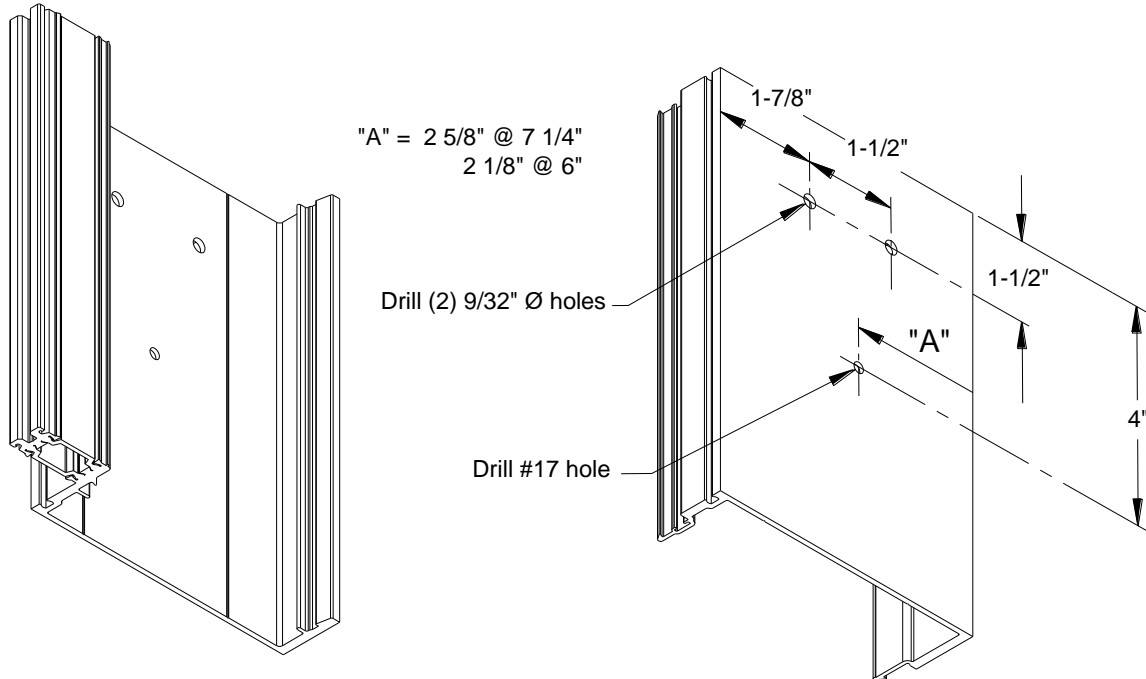

Figure 31: Vertical Mullion Fabrication
- 12.1 Drill (2) 9/32" dia. holes in lower mullion for splice attachment and one 7/32" hole in lower mullion stop screw, **see FIGURE 31.**